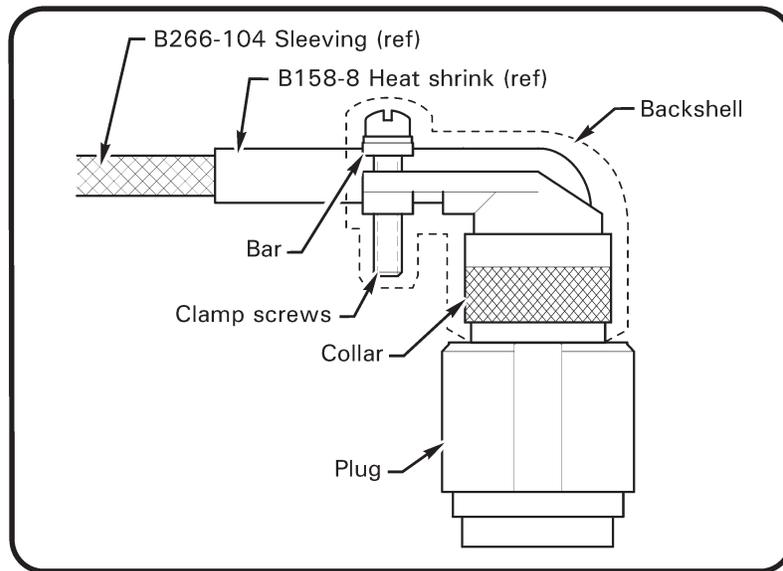

FIGURE 1 D38999/26FC35SN plug
3. Refer to MM Figure 71-1 and Figure 1. Locate D38999/26FC35SN plug on F059-01 (cabin) electrical harness. Remove and retain clamp screws & bar from backshell and loosen (backshell) collar. Disconnect cabin harness plug from (F049) engine harness receptacle. Remove ty-raps securing F059 harness wires to wire bundle.
4. Refer to Figure 1. Carefully route socket of KI-223-1948 wire assembly thru B158-8 heat shrink to cabin harness D38999/26FC35SN plug. Install socket in hole 22 of plug. Verify socket security. Tighten collar. Apply B270-20 adhesive to retained clamp screws and install bar to backshell. Torque screws to 40 in-oz.